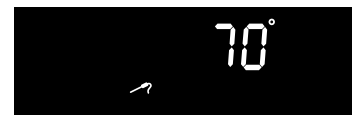

Fig. 3
4. When the probe is detected, an acceptance tone will sound, the  icon will illuminate and the current actual probe temperature will appear in the display (Fig. 3). Close the oven door.